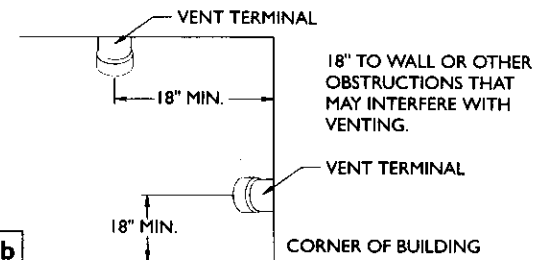

Figure 3b
- 18" minimum in all directions from any obstruction that may interfere. Figure 3b.